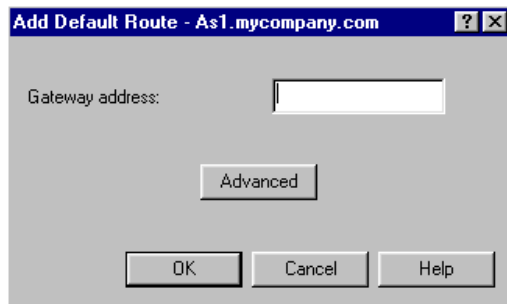

Figure 456. Add Default Route
10. The TCP/IP routing additional information window allows you to specify if these routes should be published to the network using RIP1 or RIP2. You can also define default routes, network routes, and routes to a specific host. Click the appropriate button to add the required routes. In this example, we clicked **Add default route**. The Add Default Route window (Figure 456) appears.